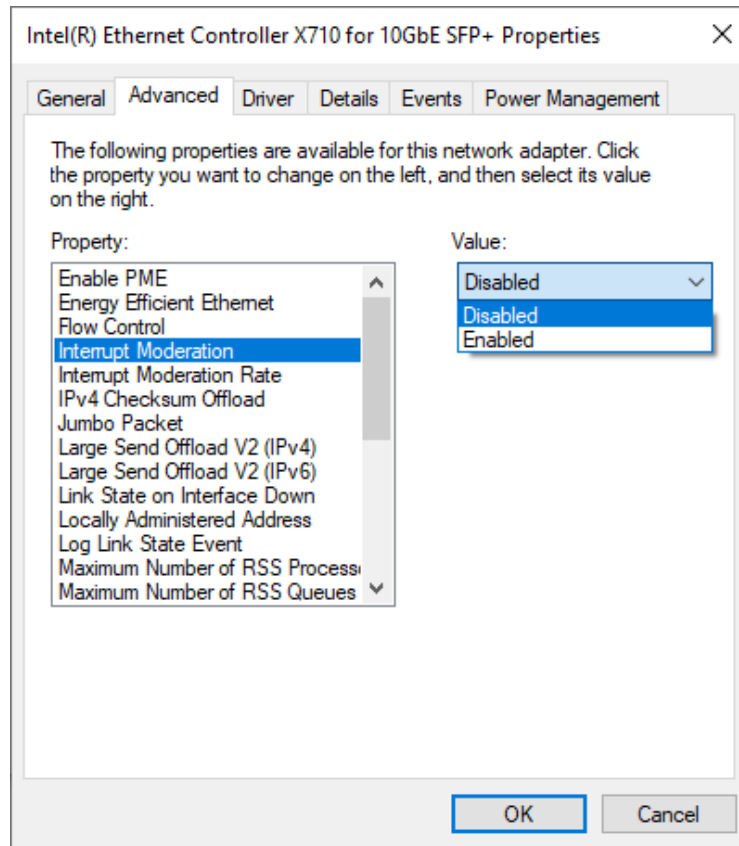

Figure 6 Interrupt Moderation
- 1) On “Interrupt Moderation” window, select “Disabled” to disable interrupt moderation which would minimize the latency during transferring data, as shown in Figure 6.